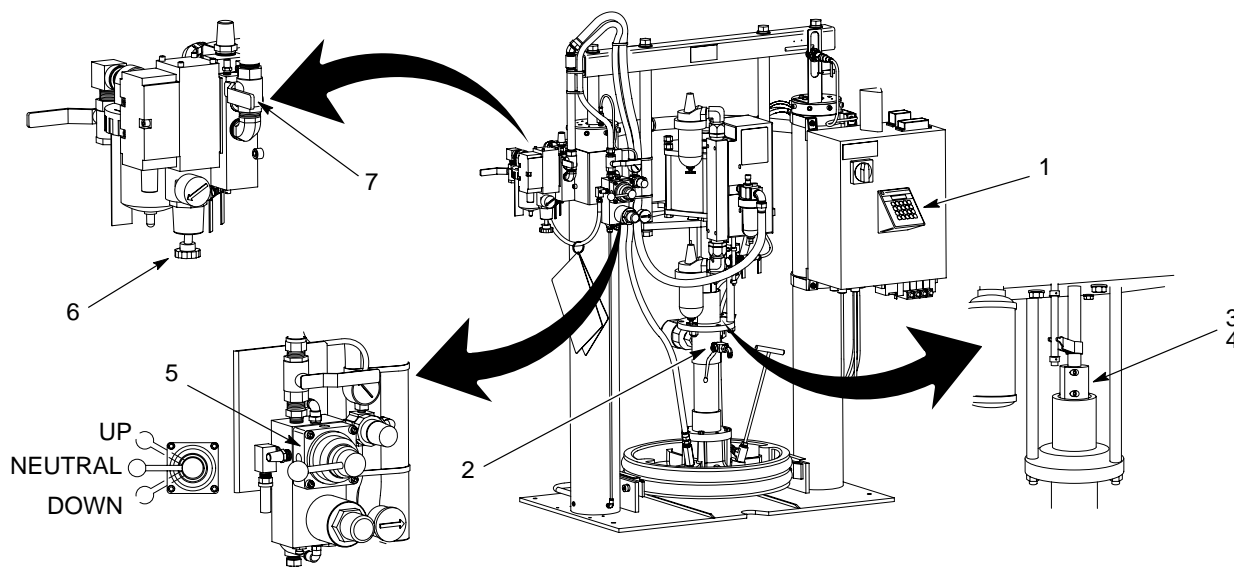

Figure 1 Typical GMT Rhino Unloader
- See Figures 1 and 2 to locate components.